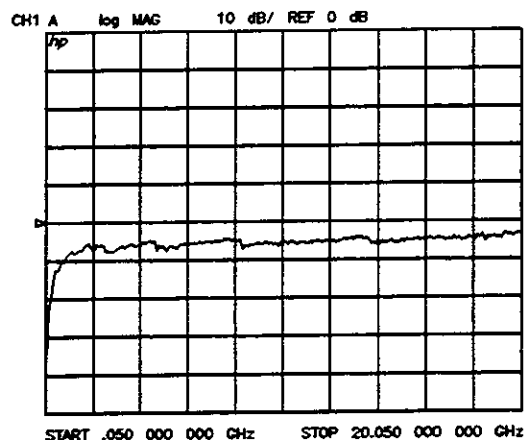

Figure 7–1. Typical Trace
12. Connect an open or short to port 1. Press **A** to look at input A (port 1). The trace should resemble Figure 7–1 below, with a minimum of about -35 dB at 50 MHz and a value around -8 dB over the flat section.
13. To check input B (port 2), connect an open or short to port 2, then press **B** **TEST SET REV** to drive port 2. Again, the trace should resemble Figure 7–1 below.